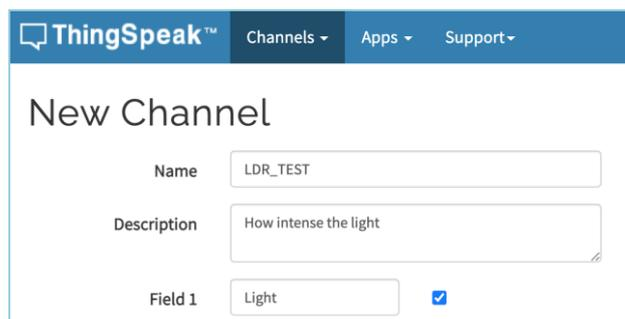

Figure B2
18. Give your channel a name, and enable one field(s) a Figure B2.